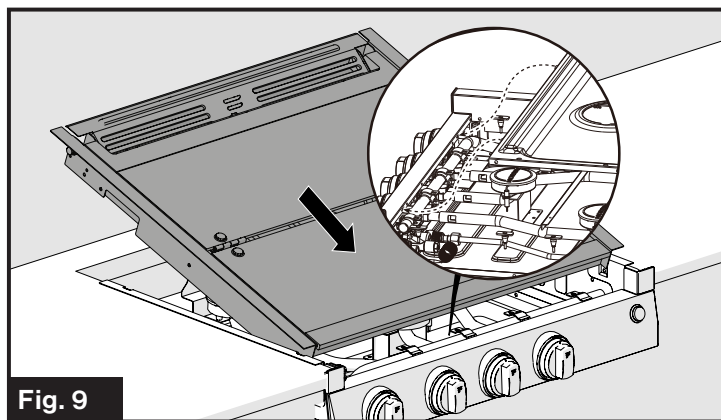

Fig. 9
1. Align the top glass cover assembly with the slots on the cooktop and place it into the cooktop. (Fig. 9)